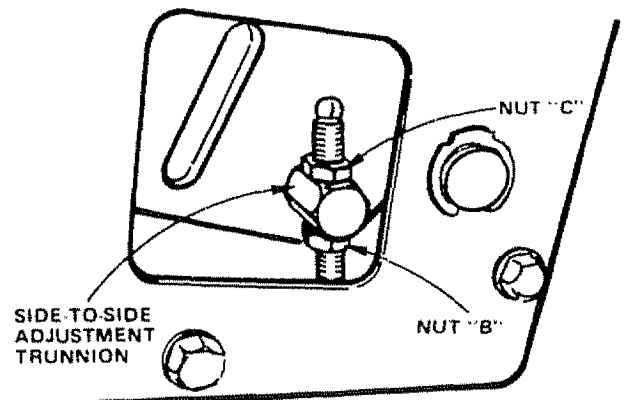

FIGURE 38
- If distance "A" needs to be changed, snap out access hole cover on L.H. side above footrest. Use 11/16" wrench on nuts "B" and "C" at side-to-side adjustment trunnion (Fig. 38).